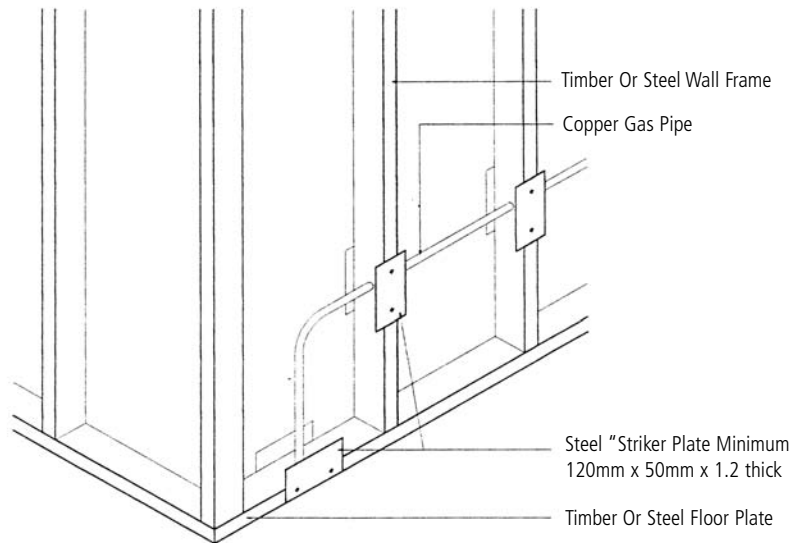

FIG. 4 PIPING IN NON-FIRE RATED HOLLOW WALLS
4.2.1 A galvanised sheet steel "striker" plate of no thinner than 1.2mm shall be fixed on both sides of the wall frame extending a minimum of 50mm beyond the location where the pipe passes through vertical or horizontal structural members. (Fig. 4)